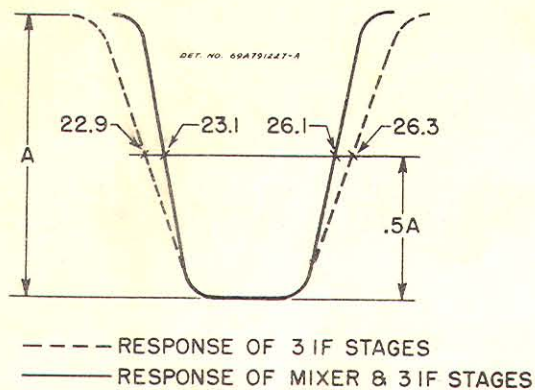
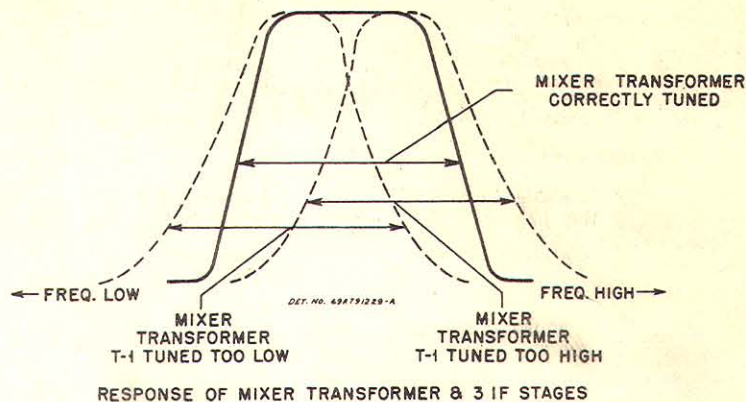

FIGURE 5. MIXER & IF WAVEFORM
FIGURE 6. MIXER TRANSFORMER TUNING CURVE
3. Through a 10K decoupling resistor, connect the scope between the top of the detector load resistor (R-21, 8200) and B-. If a stronger output is required, connect the scope between the picture tube cathode and B-. The curve seen at this position will be of reversed polarity as in Figure 6.
8. Adjust the 1st IF coil, L-10, to place a 26.3 mc marker signal 50% (1/2) the way up the high side of the response waveform. Refer to Figure 5 for marker positions on waveform obtained.
NOTE: It may be necessary to repeat procedure to obtain proper waveform; see Figure 5.
With the battery bias still applied to the 1st IF, move the sweep generator to the grid of V-2A mixer tube. Connect it across resistor R-5 (33K). Set contrast control at minimum. Bring both cores simultaneously from extreme outside positions toward the center until the 26.1 mc marker is 50% (1/2) way up the high frequency slope, and the 23.1 mc marker is 50% (1/2) way up the low frequency slope. Correct waveform is shown in Figure 5.
In aligning the three IF coils, each coil is adjusted individually, but when adjusting the primary and secondary of the mixer transformer T-1, the adjustments should be made simultaneously. The important point to keep in mind is to obtain a flat response curve with as much gain as possible. The sides of the curve should be straight and as steep as possible with a sharp break at the base line. Simultaneous adjustment of the primary and secondary is the easiest way to obtain this result. The transformer by itself is, in effect, tuned for the same pass band as the three staggered circuits. See Figure 6. The only difference in the overall waveform should be that the sides of the overall curve (Figure 5) should be steeper. Constant use of the 50% response marker signals to show the bandwidth of the response curve should be resorted to, since it is absolutely necessary to obtain the proper curve. A slight dip (not exceeding 10%) is permissible in the mixer transformer response curve.
The bandwidth may be determined with an AM generator by doubling the input required to produce 1 volt at the video detector and tuning to each side of 24.6 mc. until the meter again reads 1 volt. These frequencies correspond to the 6 db (50%) points on the skirts of the curve. The bandwidth will decrease from that shown in Figure 6 because the battery bias on the 1st IF tube has been removed, but the two 6 db points should be at least 2.3 mc apart. By making a plot of frequency versus voltage, the actual IF response curve may be traced out.